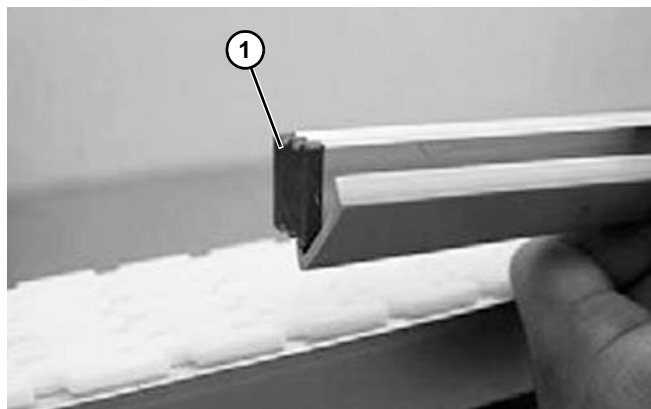

Figure 102
1. To prevent products from being scratched, a plastic guide rail cover (**Figure 102, item 1**) can be snapped on to the inside of the guide rail.